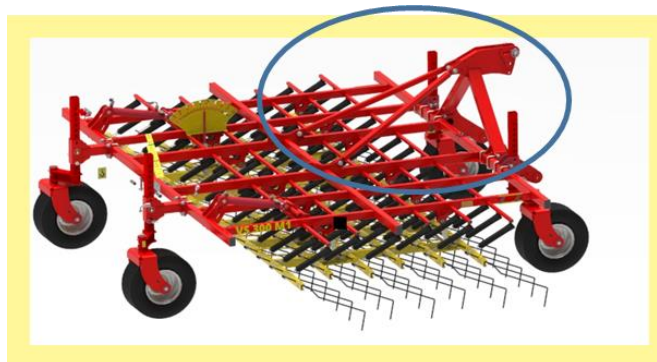

Figure 14: Mounting the headstock and the tension struts
- 7) The headstock and the tension struts must now be installed on the rear side of the Tined Weeder Pro, as shown in Figure 14. Tightening torque